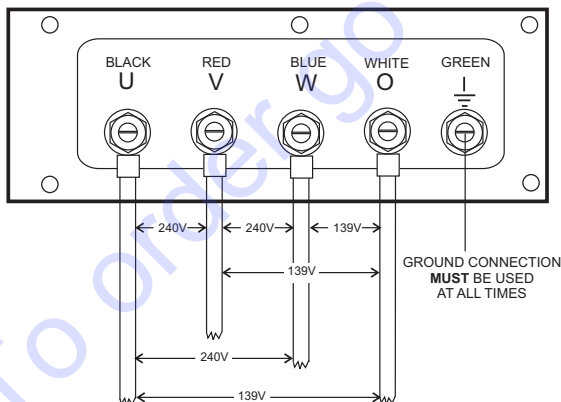

Figure 19. UVWO Terminal Lugs
2. Connect the load wires to the UVWO terminals as shown in Figure 19.